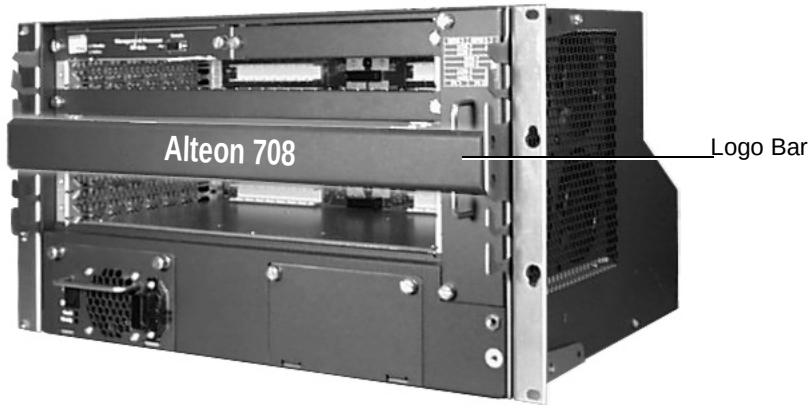

Figure 6 Placing the Logo Bar
10. If desired, insert the logo bar between the cable management brackets as shown in Figure 6 on page 37.